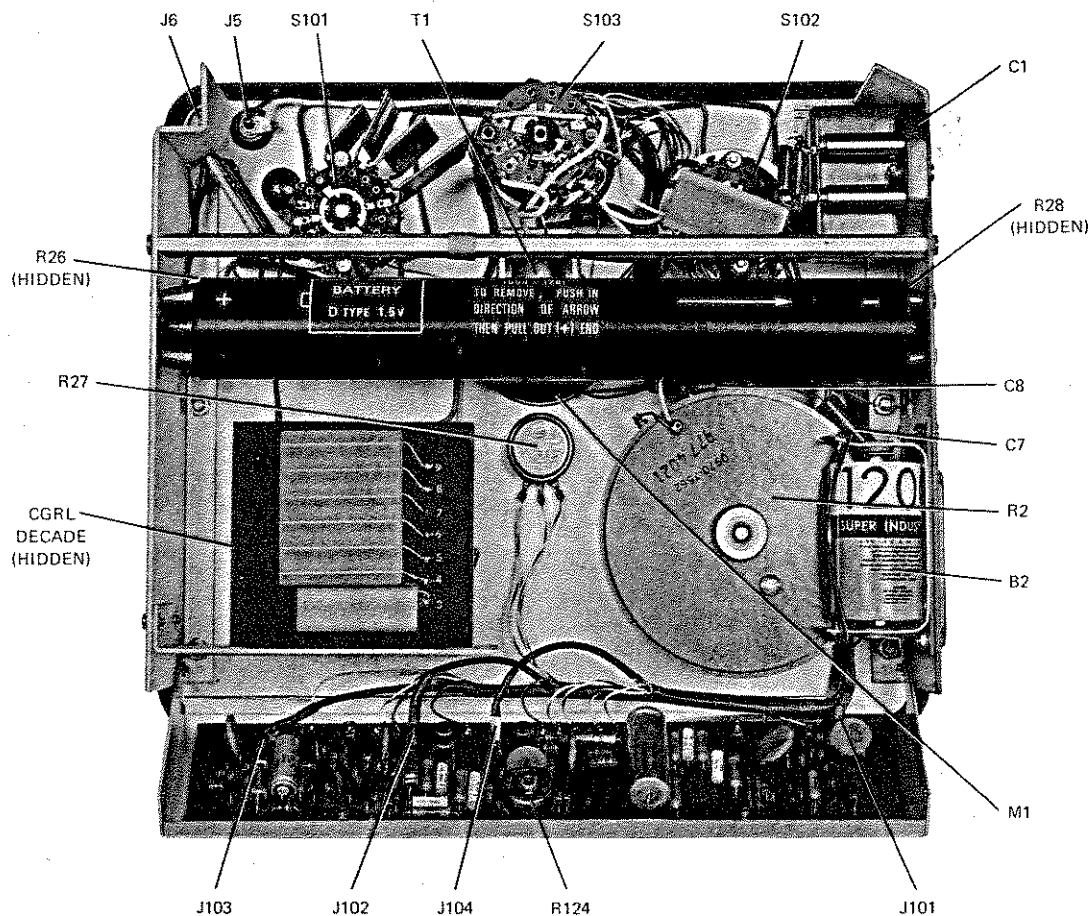

Figure 6-2. Rear interior view of 1656 Bridge.
For access to the etched circuit shown in Figure 6-2, remove the two screws holding the top of the board in place and loosen the two screws at the bottom of the board one turn. Tilt the board out as in Figure 6-2.
d. Adjust R129 beside R124 Figure 6-2, for maximum 60-Hz component riding on the 1-kHz signal entering the detector.